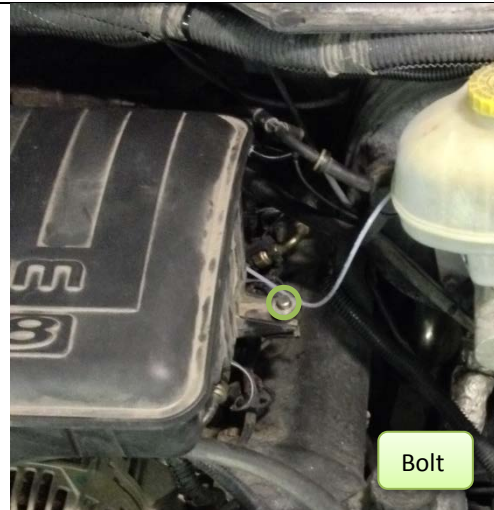

Figure 4: Driver side upper intake.
- 4.2.2. One Driver side (Figure 4)